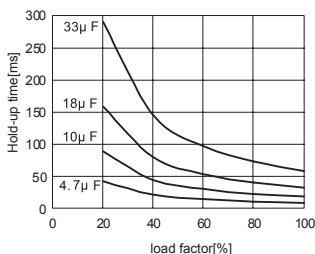
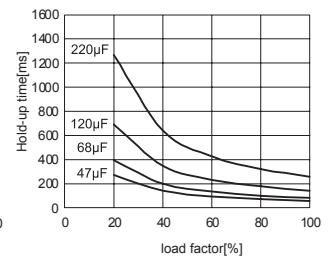

Fig.3.1 TUHS3 hold-up time(AC100V)
Fig.3.10 TUHS25 hold-up time(AC200V)
(3) Cbc: Smoothing capacitor
■ In order to smooth voltage, connect Cbc between +BC and -BC. Recommended capacitance of Cbc is shown in Table 3.2. Hold-up time and load factor is shown in figure 3.1-figure 3.10.